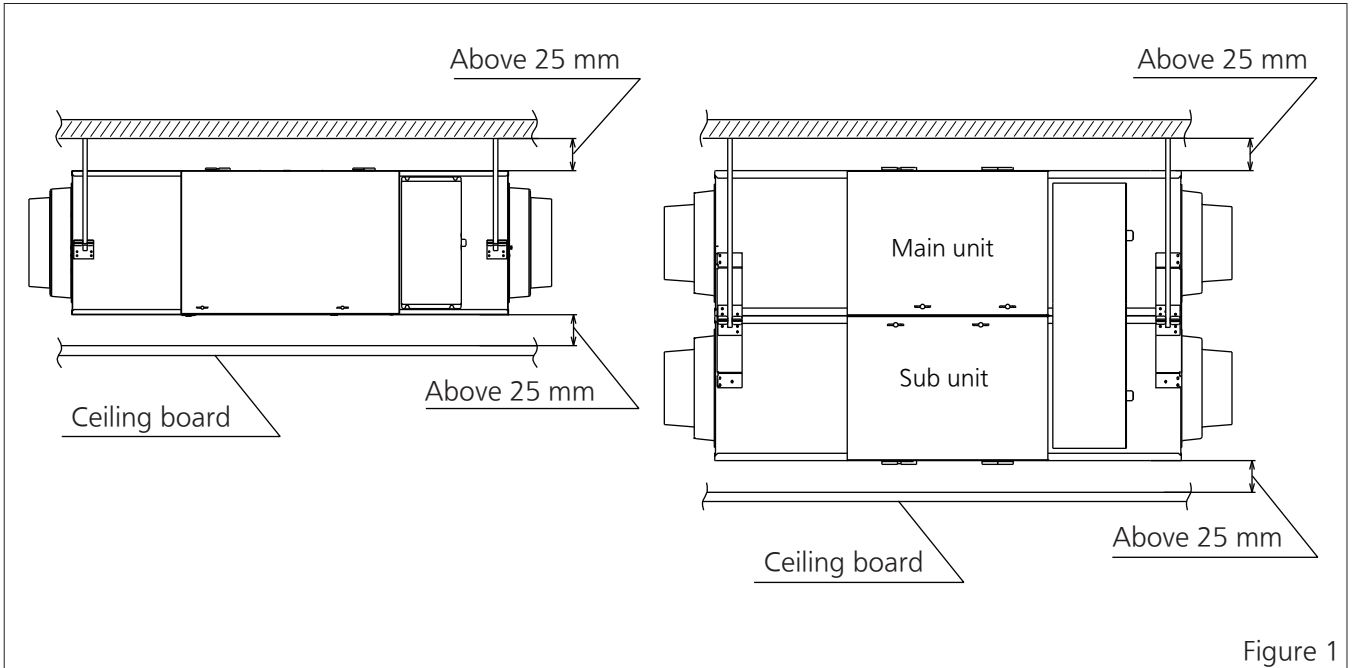
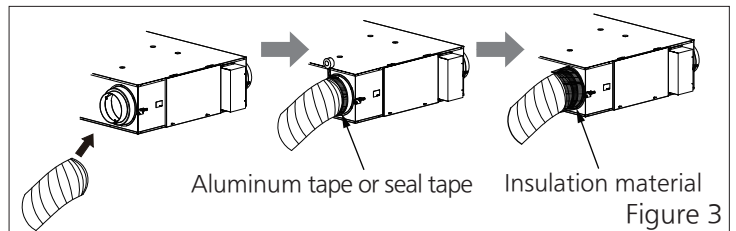

Figure 1
Figure 3
①Please ensure a safe distance (Figure 1)
- (1)Ensure the distance between the underside of the unit and ceiling board is over 25 mm.
- (2)Ensure the distance between the top of the unit and the mounting face of supports is over 25 mm.
① Installation diagram (Figure 1、Figure 2、Figure 3)
- ② Positioning and installation of supports (Figure 1)
- (1) Please set the supports according to the suspension brackets of the energy recovery ventilator. (site supplied: M10-M12)
- (2) Install the suspension brackets (4) of the energy recovery ventilator to the supports (site supplied).
Suspension bracket Figure 1
- ② Seal adapter joint and duct (site supplied) with aluminum tape (site supplied) or seal tape (site supplied) to avoid air leakage.
- ③ Wrap insulation materials (site supplied) on the outside of the junction between the adapter and the duct. (Figure 3)
- ①Strip the power cord. (Figure 1)
- (1)Remove the screws on the cover of electrical equipment box.
- (2)Remove the cover of electrical equipment box.
- ③Unfasten the screws on the wire clip that secures the wire.
- ④Unfasten the screws on the terminal block, twist together the copper strands of each core, pass the wires through the corresponding wire plug and wire clip, insert them into the wiring part of the terminal block, and ensure they are all inserted under the washers. (Figure 3)